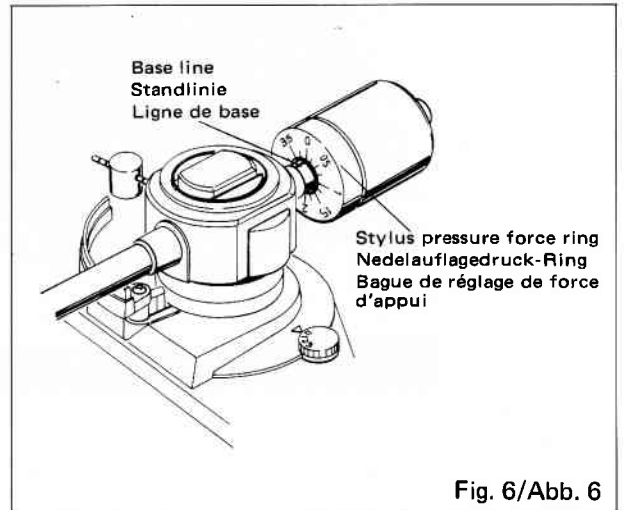

Fig. 6/Abb. 6
1. While holding the counter weight, set the stylus pressure force ring to the zero position relative to the base line (Fig. 6).